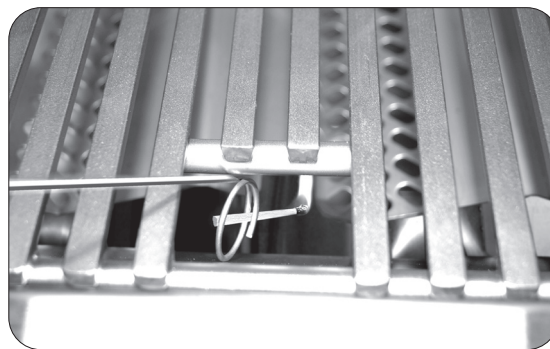

Fig. 31-2 - Manual lighting
2. Insert either a burning long-barrel butane lighter or a burning long-stem match through the cooking grid opening to the top of the burner (Fig. 31-2). For backburners, hold the flame against the surface of the backburner.
4. If the burner does not light within five (5) seconds of turning the control knob, **immediately depress the knob and turn the valve to OFF**. **WAIT FIVE (5) MINUTES** before repeating steps 2 through 4 of the **MANUAL LIGHTING** instructions.